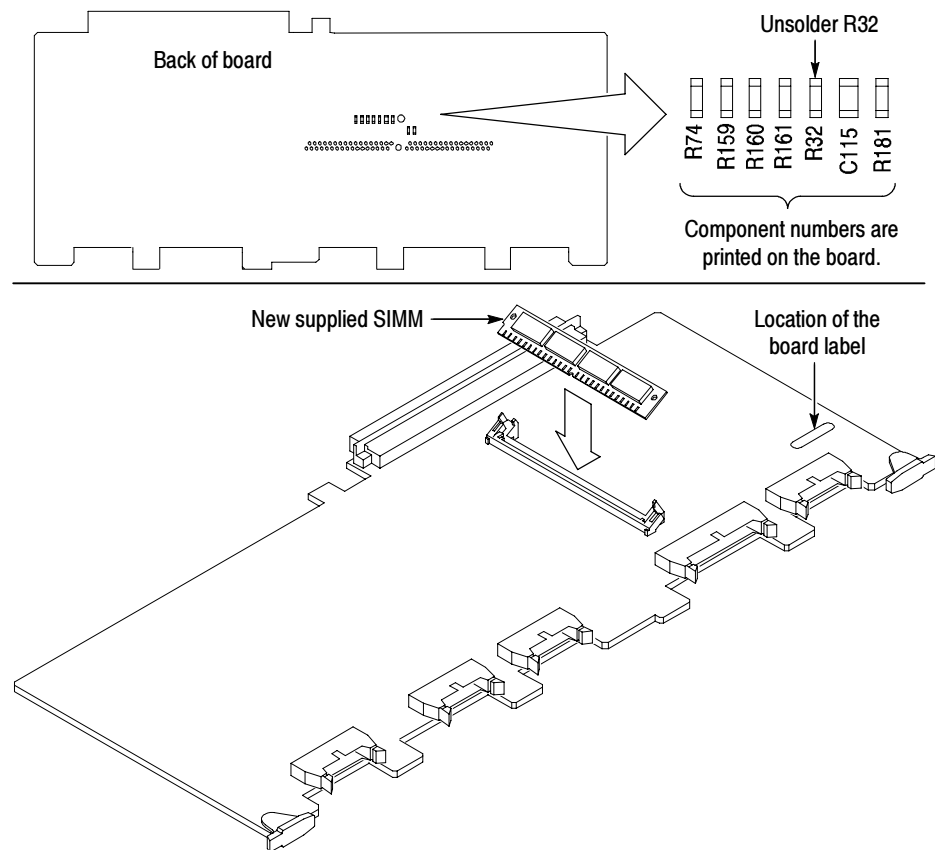

Figure 5: SIMM installation and R32 location (VM700T SN B020100 and B029999)
2. Remove the existing SIMM by pressing the left metal tab, and then the right tab to release the SIMM from the board. Press the supplied SIMM into the board connection as shown in Figure 5.
4. Unsolder and remove R32 from the back of the existing Acquisition circuit board (A18) as shown in Figure 5.